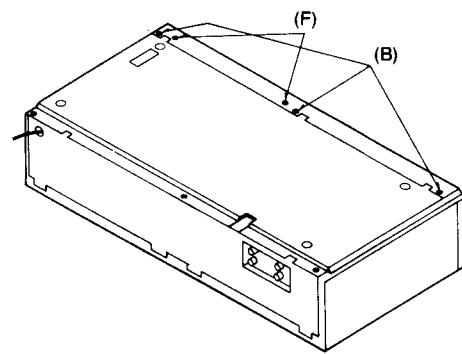

Fig. 2
1. Make connections as shown in fig. 2.
- Test equipment connection is shown in fig. 2.